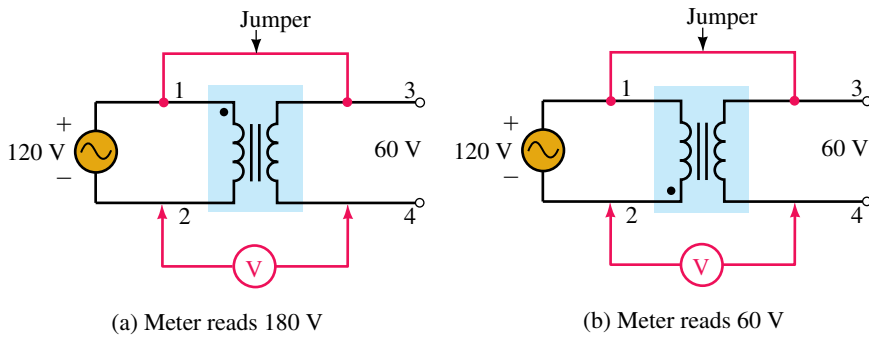

FIGURE 24-18 Each transformer is rated 120V/60V.
5. Figure 24-18 shows another way to determine dotted terminals. First, arbitrarily mark one of the primary terminals with a dot. Next, connect a jumper wire and voltmeter as indicated. From the voltmeter readings, you can determine which of the secondary terminals should be dotted. For the two cases indicated, where should the secondary dot be? (*Hint: Use KVL.*)